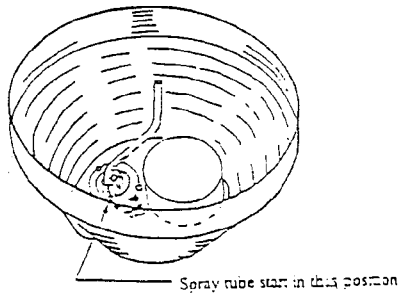

Figure 6
4. Line up the lines on the pump cover base of the bowl. Drop the pump cover in so that the three tabs on the bowl base go through cut-outs in the pump. Turn pump counterclockwise until tabs of the bowl hit tabs of the cover. (See Fig. 6)